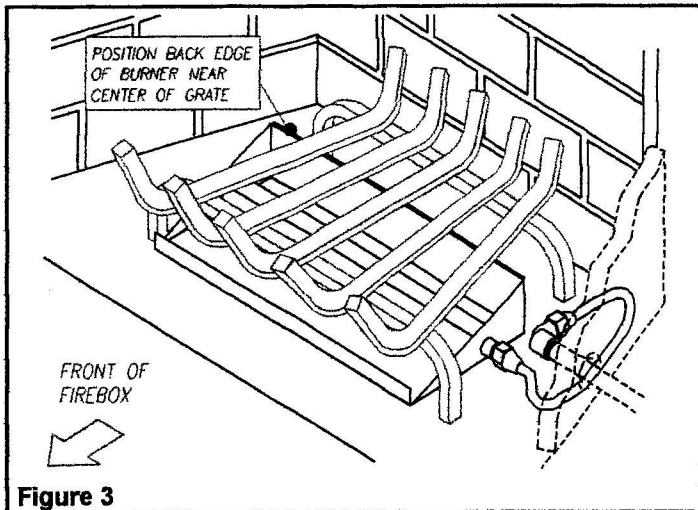

Figure 3
5. Place and center the grate over the burner pan. The widest part of the grate should point forward. The rear of the pan should be about 2" towards the front from the rear crossbar of the grate (**Figure 3**). Once position has been set, remove grate and proceed with next step.